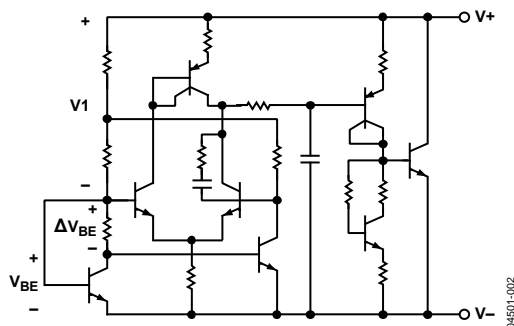

Figure 14. Circuit Schematic
The ADR525/ADR530/ADR550 use the band gap concept to produce a stable, low temperature coefficient voltage reference suitable for high accuracy data acquisition components and systems. The devices use the physical nature of a silicon transistor base-emitter voltage ( $V_{BE}$ ) in the forward-biased operating region. All such transistors have approximately a  $-2 \text{ mV}/^\circ\text{C}$  temperature coefficient (TC), making them unsuitable for direct use as low temperature coefficient references. Extrapolation of the temperature characteristics of any one of these devices to absolute zero (with the collector current proportional to the absolute temperature), however, reveals that its  $V_{BE}$  approaches approximately the silicon band gap voltage. Thus, if a voltage develops with an opposing temperature coefficient to sum the  $V_{BE}$ , a zero temperature coefficient reference results. The ADR525/ADR530/ADR550 circuit shown in Figure 14 provides such a compensating voltage ( $V_1$ ) by driving two transistors at different current densities and amplifying the resultant  $V_{BE}$  difference ( $\Delta V_{BE}$ , which has a positive temperature coefficient). The sum of  $V_{BE}$  and  $V_1$  provides a stable voltage reference over temperature.